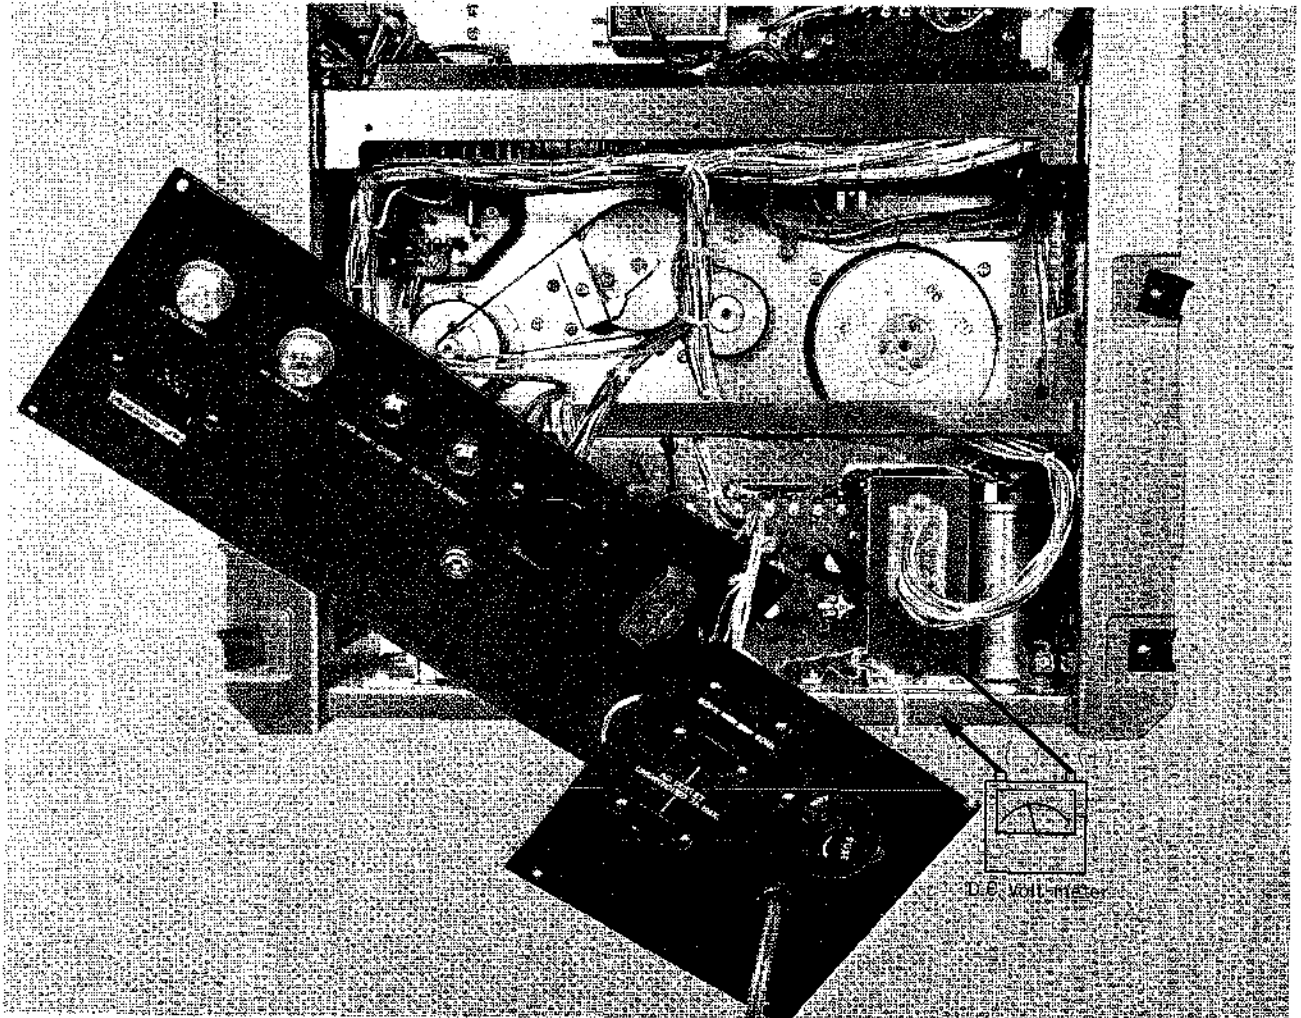

Fig. 1
- (c) Adjust VR-201 so that the Frequency Counter indication is within the range of 993 to 1,007 Hz at the beginning and the end of tape. (Refer to Fig. 1).